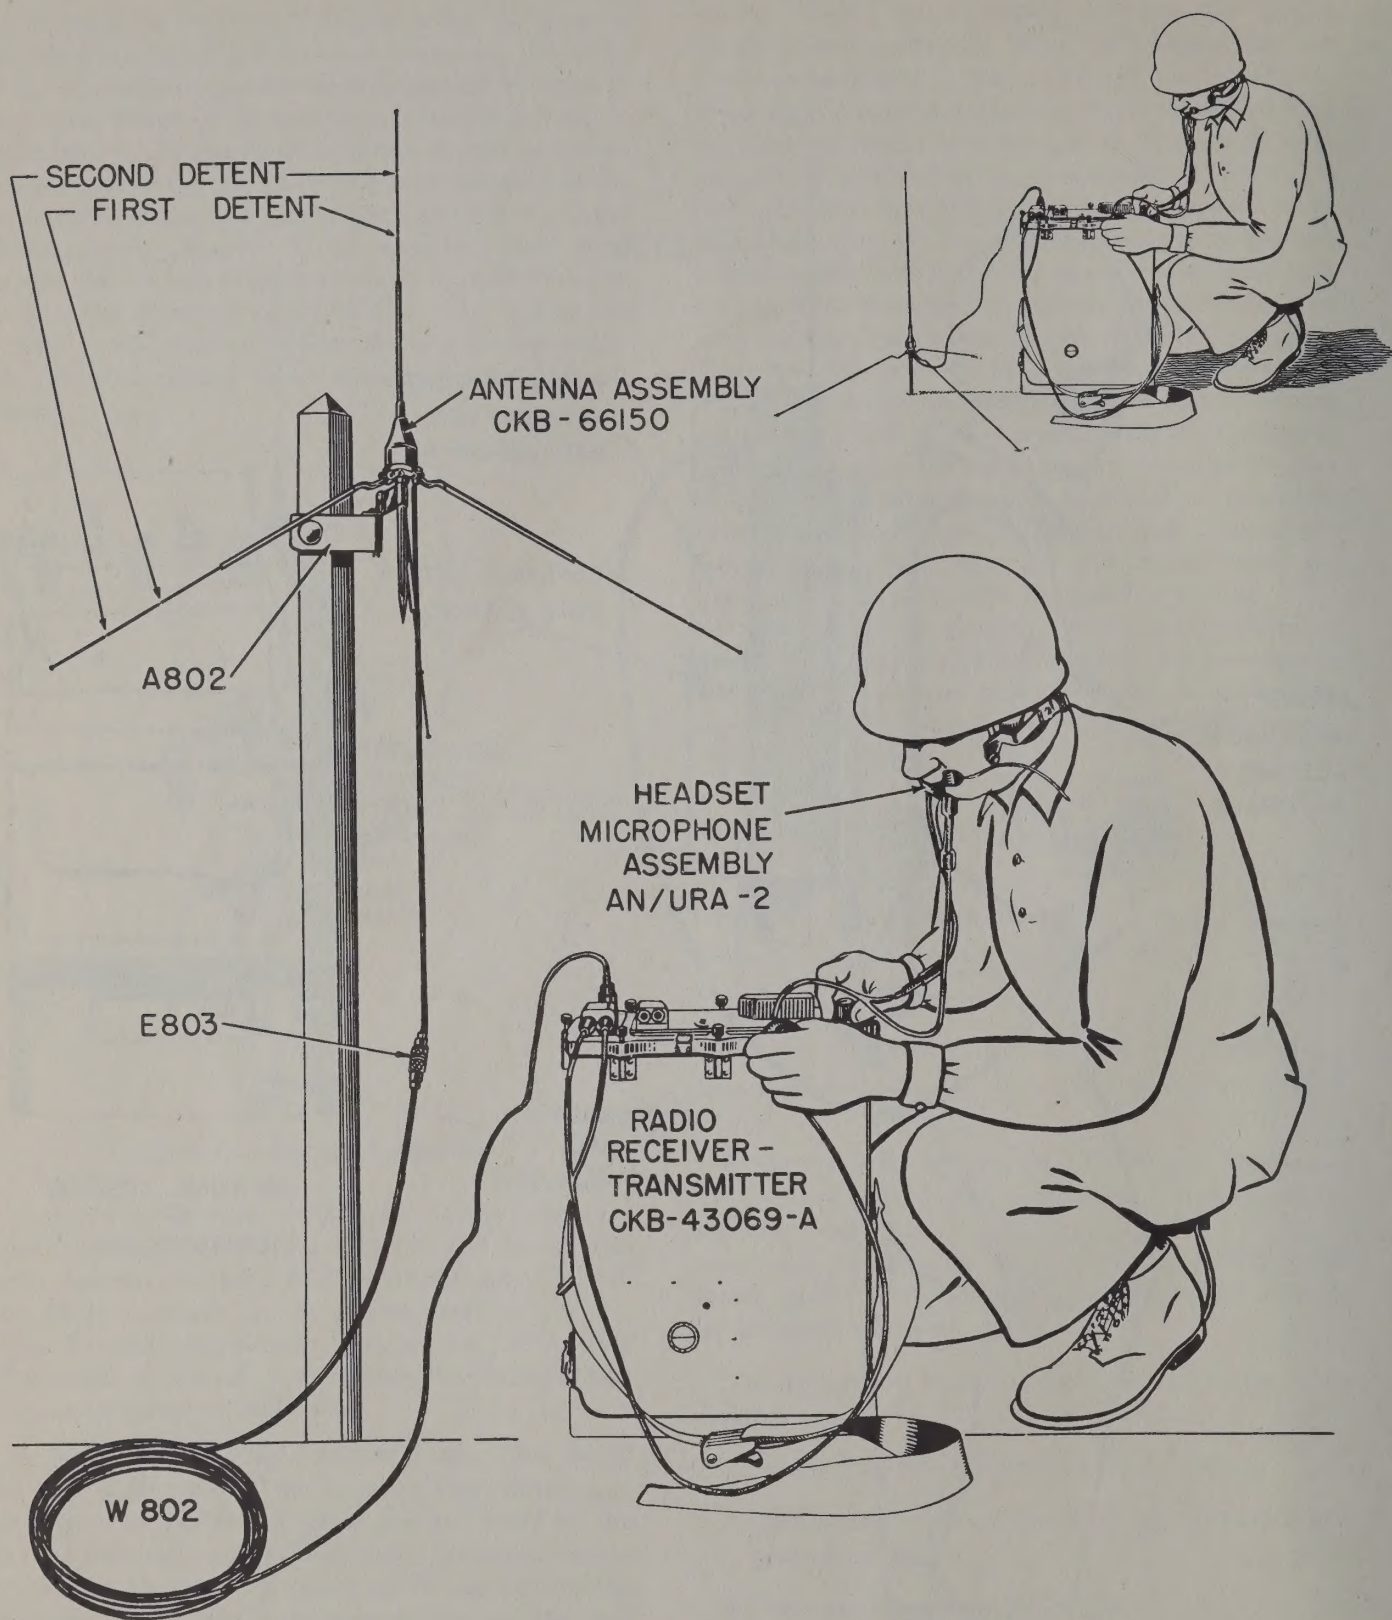

Figure 4-5. Fixed Operation of MAW-1 Equipment
c. SETUP FOR FIXED OPERATION. (See figure 4-5.)—Fixed operation is used where it is desirable to set up a fixed station for any length of time. This permits using the complete Antenna Assembly CKB-66150 which gives the installation more flexibility, as well as increased efficiency.
Use of the Antenna Assembly offers the advantage of higher elevation or a more desirable location for the Antenna. It is mounted away from the equipment, either by the tree clamp A802, or by inserting the ground spike in the ground, as illustrated in figure 4-5. Where extreme elevation or remote antenna position is desired, the extension cable W802 and connector E803 may be used.
Antenna Adjustment	The telescoping rod of the vertical antenna element or all the rods of the Antenna Assembly must be adjusted to the correct length for the channel being used according to the following: (See figure 4-5.) For: 115 to 134 mc, the rods must be fully extended. 134 to 142 mc, the rods must be at second detent position. 142 to 156 mc, the rods must be at first detent position. The fully collapsed position is used only for storage.
(1) Keep the microphone adjusted properly and **DON'T SHOUT!**
(2) Keep the vertical radiator on the antenna clear of bushes, underbrush, and any foreign objects. Keep in the clear and elevated as much as possible.
(3) The Antenna Assembly should always be elevated to get maximum range; hold it up in the air by grasping the ground stake, or use the tree clamp to mount on tree or bush.
(4) Conserve your battery; keep transmissions short.
(5) Operate the receiver at a comfortable volume and keep headset pads over ears to exclude outside noise.
(6) When red charge indicator ball is down in the battery, the receiver may operate, but the transmitter may not. Recharge battery when either white ball sinks.
(7) The detent action of the channel selector switch is positive, but be certain that the pointer is not in between channel numbers.
(8) To enable the operator to set the antenna length correctly for any channel without divulging the channel frequency, pencil a number next to each channel number on the control panel—a number 1 for channels requiring the antenna to be extended to first detent; a number 2 for extension to the second detent; a number 3 for full extension. (See figure 4-5.)
(9) All plugs on extension cables should be inserted clear to the shoulder of the plug.
(10) In order that the equipment will remain submersion proof, keep the thumb screws, holding the control panel, screwed down tight and the bottom plate on the carrying case securely fastened.
(11) The equipment should be operated in an upright position, otherwise the battery life will be shortened.